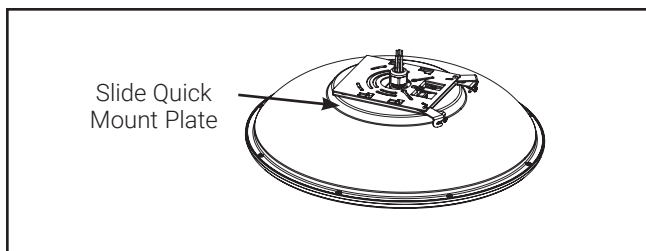

Figure 2
2. Slide quick mount plate forward until the plate disengages from the housing (FIG. 2).